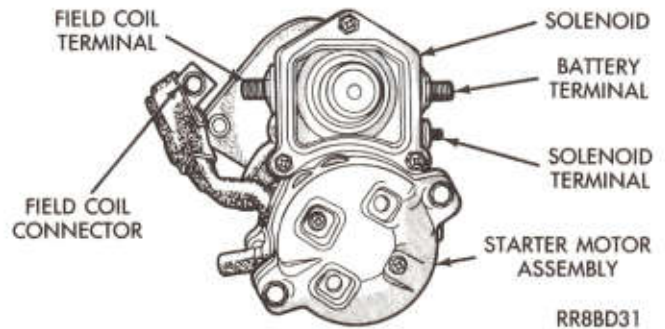

Fig. 6—Field Coil Wire Terminal (Typical)
(1) Remove starter motor, see Group 8B, Battery/Starter Service.
(2) Disconnect field coil wire from field coil terminal (Fig. 6).
(5) If there is continuity solenoid is good. If there is no continuity in either test solenoid has an open circuit and is defective. Replace solenoid assembly.
(6) Connect field coil wire to the field coil terminal (Fig. 6).